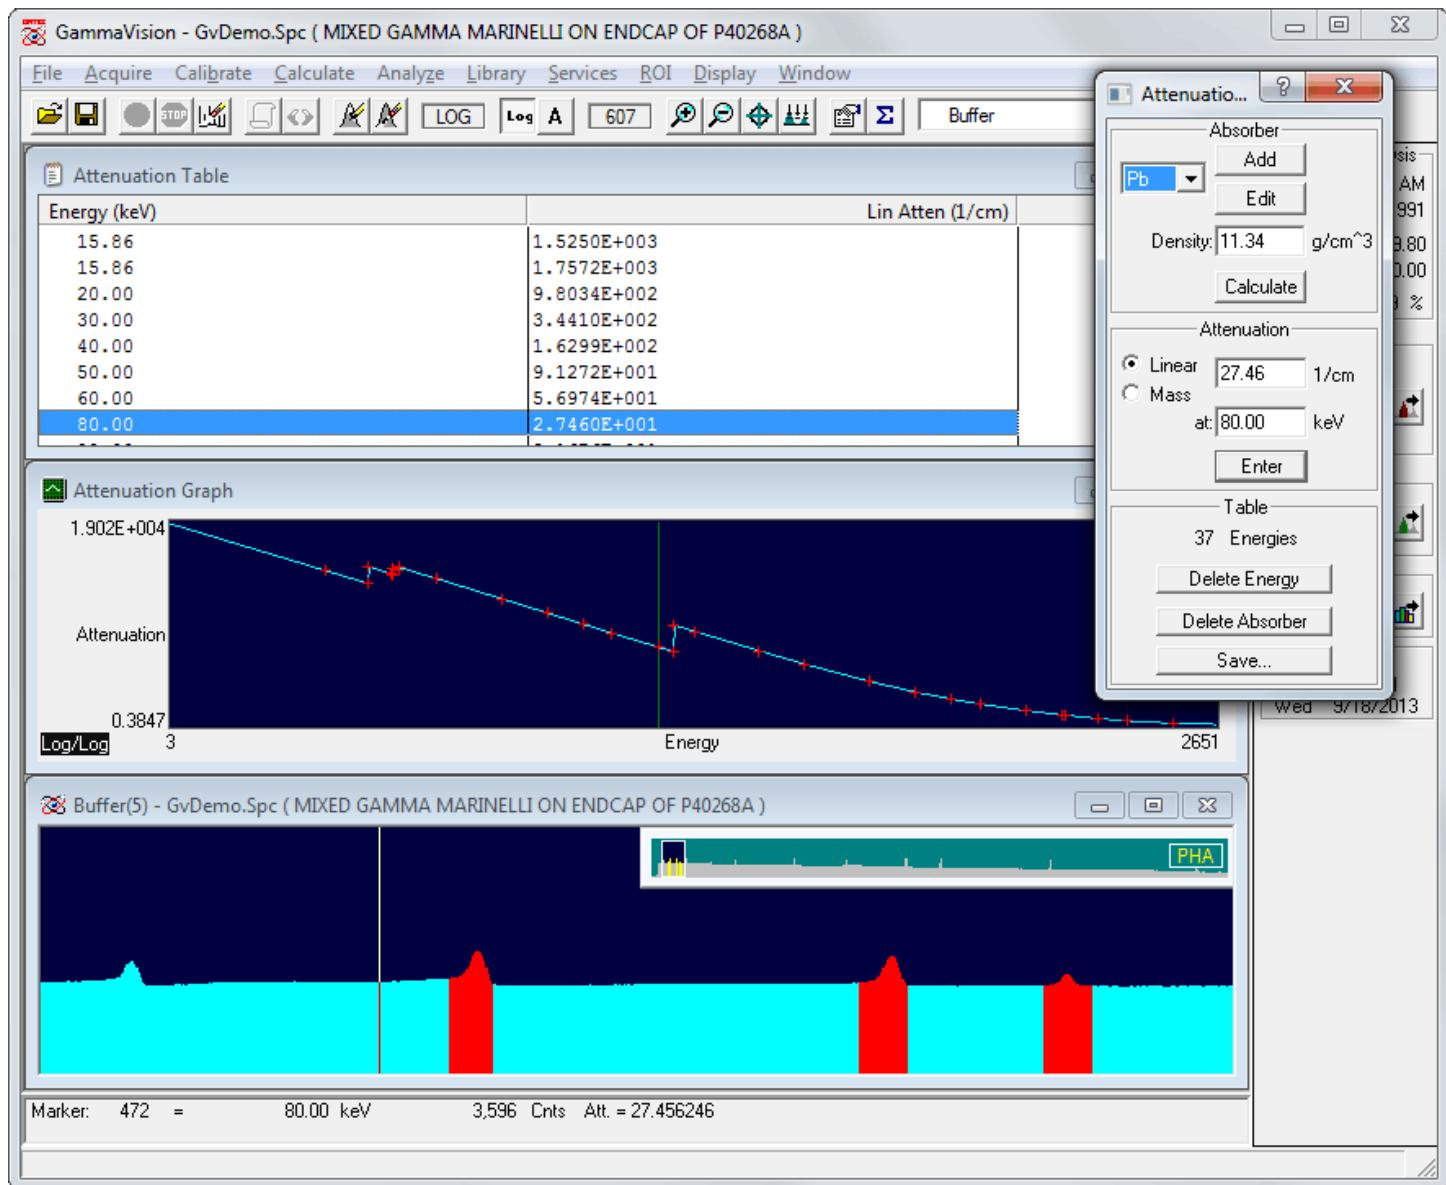

Figure 147. Attenuation Worksheet Table for Absorber Coefficient Table.
Selecting **Coefficient Table** opens the Attenuation Worksheet Sidebar, Attenuation Table, and Attenuation graph window, as illustrated in Fig. 147.
- 7) Next, enter the mass or density as shown in the **Absorber** section at the top of the sidebar (Fig. 147), and click **Calculate**.
These two spectra must be the spectrum without the absorber and the spectrum with the absorber. The two samples should be otherwise as similar as possible. This will produce a table that is the ratio of the net peak areas for all the peaks that are in both spectra. The matching is done by using the identified (library) peak list in both .UFO files. The calculated table is now displayed as shown in Fig. 147.